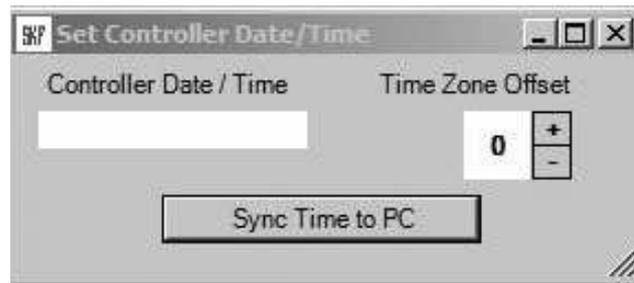

Fig. 3
3.2.1 Click **sync time to PC** button (fig. 3).